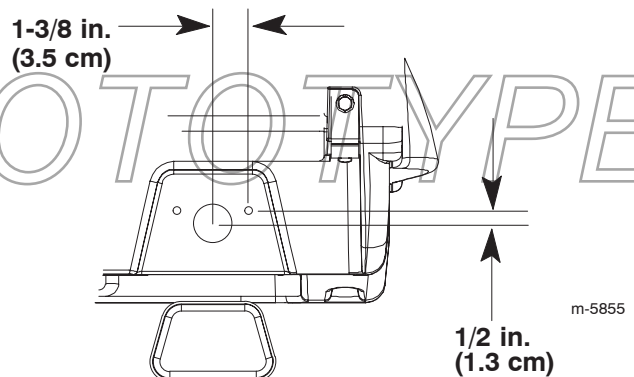

Figure 16
2. Drill a hole (1-1/2 in. dia.) in each taillight location in the back of the bed as shown in Figure 16.